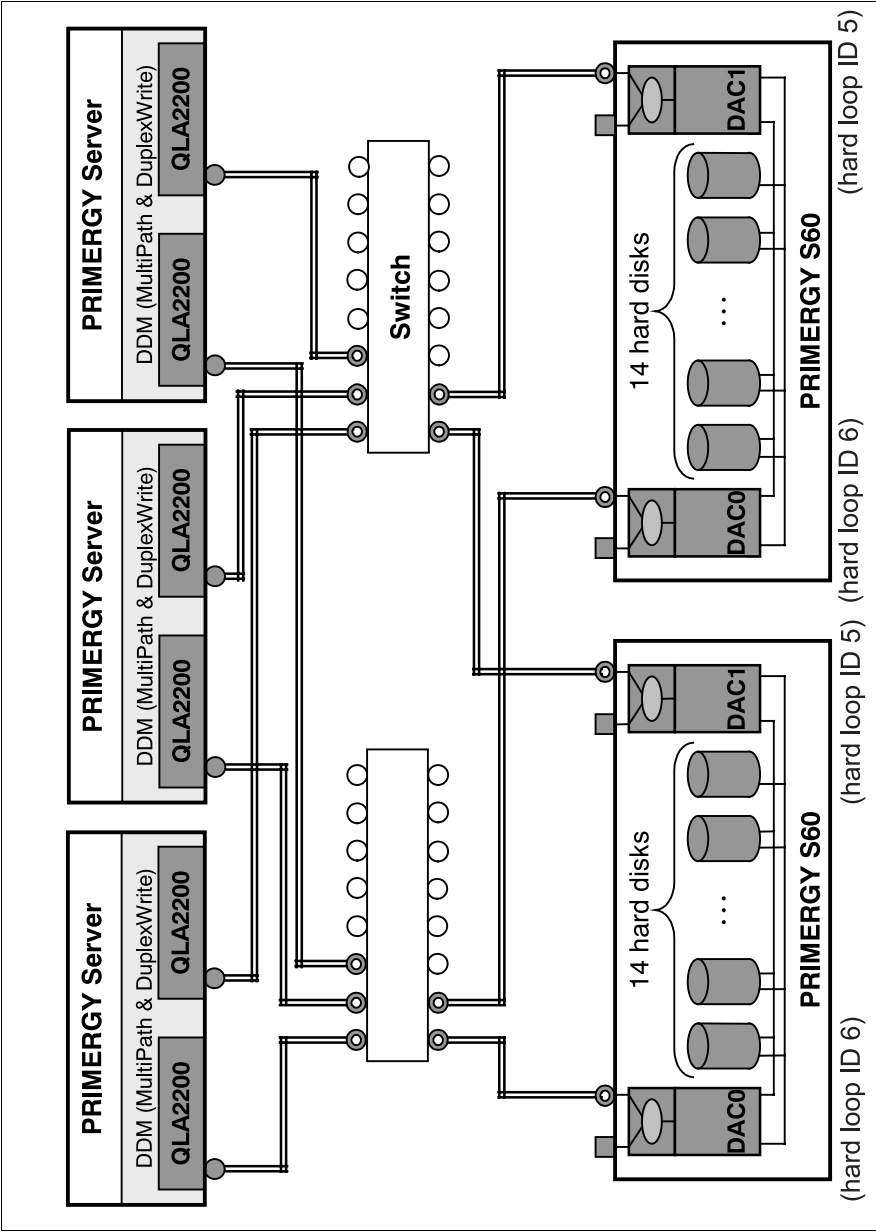

Figure 30: SAN Mapping with MultiPath and DuplexWrite in Switch Configuration
- QLA 2200 settings: see table 9 on page 51, Submenu 1.6.3: *Connection Options/Point to Point Only (1)*
- Loop IDs (figure 30 on page 46) for FFX, HBAs disabled